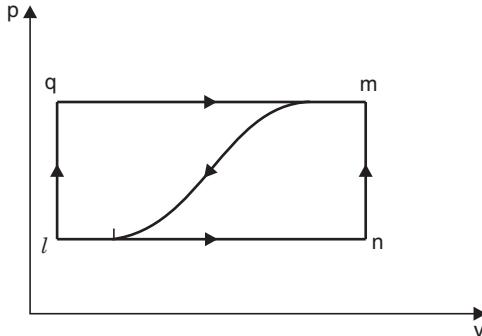

Fig. 2.18
**Example 2.10.** When a system is taken from state  $l$  to state  $m$ , in Fig. 2.18, along path  $lqm$ , 168 kJ of heat flows into the system, and the system does 64 kJ of work :
**Solution.** Refer to Fig. 2.18.